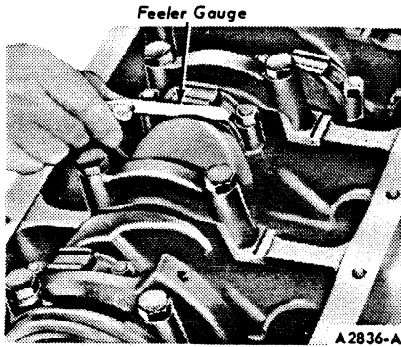

FIG. 57 Checking Connecting Rod Side Clearance
8. After the piston and connecting rod assemblies have been installed, check the connecting rod side clearance on each crankshaft journal (Figure 57).
21. After the piston and connecting rod assemblies have been installed, check the connecting rod side clearance on each crankshaft journal (Figure 57).